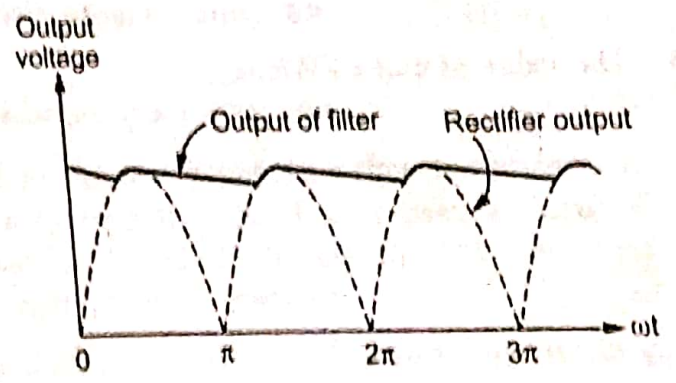

Fig. Q.35.2 Waveforms of π filter
- The Fig. Q.35.2 shows the waveforms of π (PI) filter.